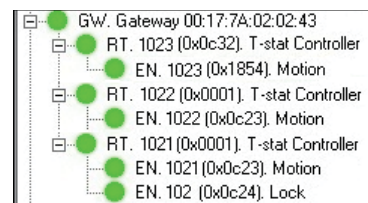

Figure C32
14. See Figure C32 for a picture of the final **Online Network** tree.
When steps 1-4 below have been performed, the online network tree in SysMon will typically look as in the example in *Figure C32*: